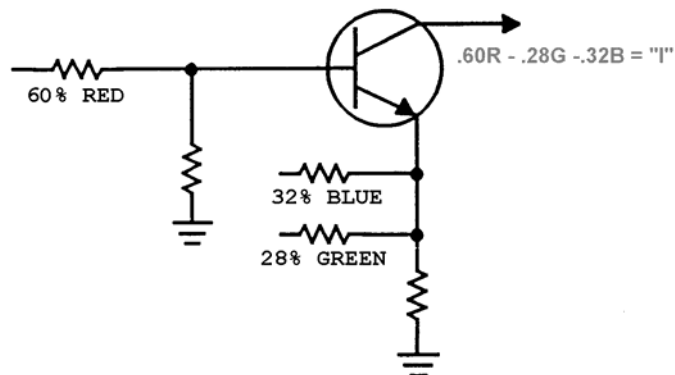

Figure S-26. I Matrix
d. The I Signal is formed by applying the red signal to the base and by applying the green and blue signals to the emitter of the I amplifier (see Figure S-26). This circuitry determines that the output of the red signal will be 180 degrees out of phase with the other two, thus the designation 60 percent red, 28 percent green, and 32 percent blue. The polarity signs only indicate phase relationships. The resistor network determines the amplitude of the signals.